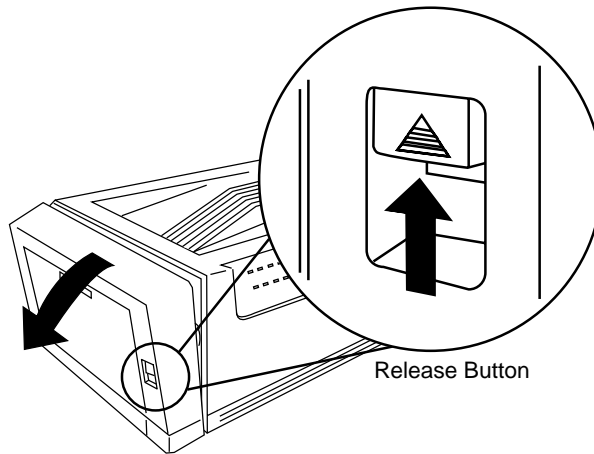

Fig. 7.2 *Open Paper Path Door*
2. Pull up the release button on the side of the front cover to unlatch the paper path door (fig. 7.2). Open the door. **Be careful; the area around the transfer guide and roller is hot.**